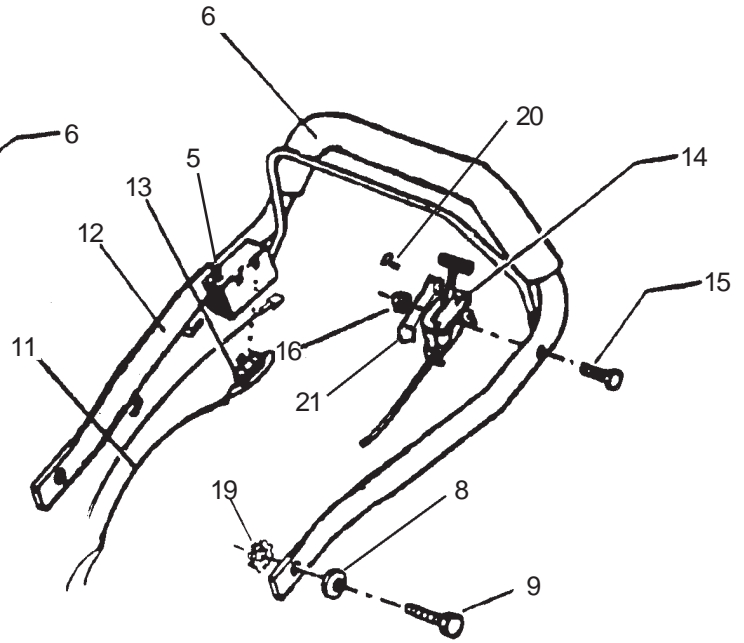

Fig. 2
- Step 6.)** Turn tensioner counterclockwise (Fig. 2) until tensioner arm reads at the 30° mark on the tensioner base.